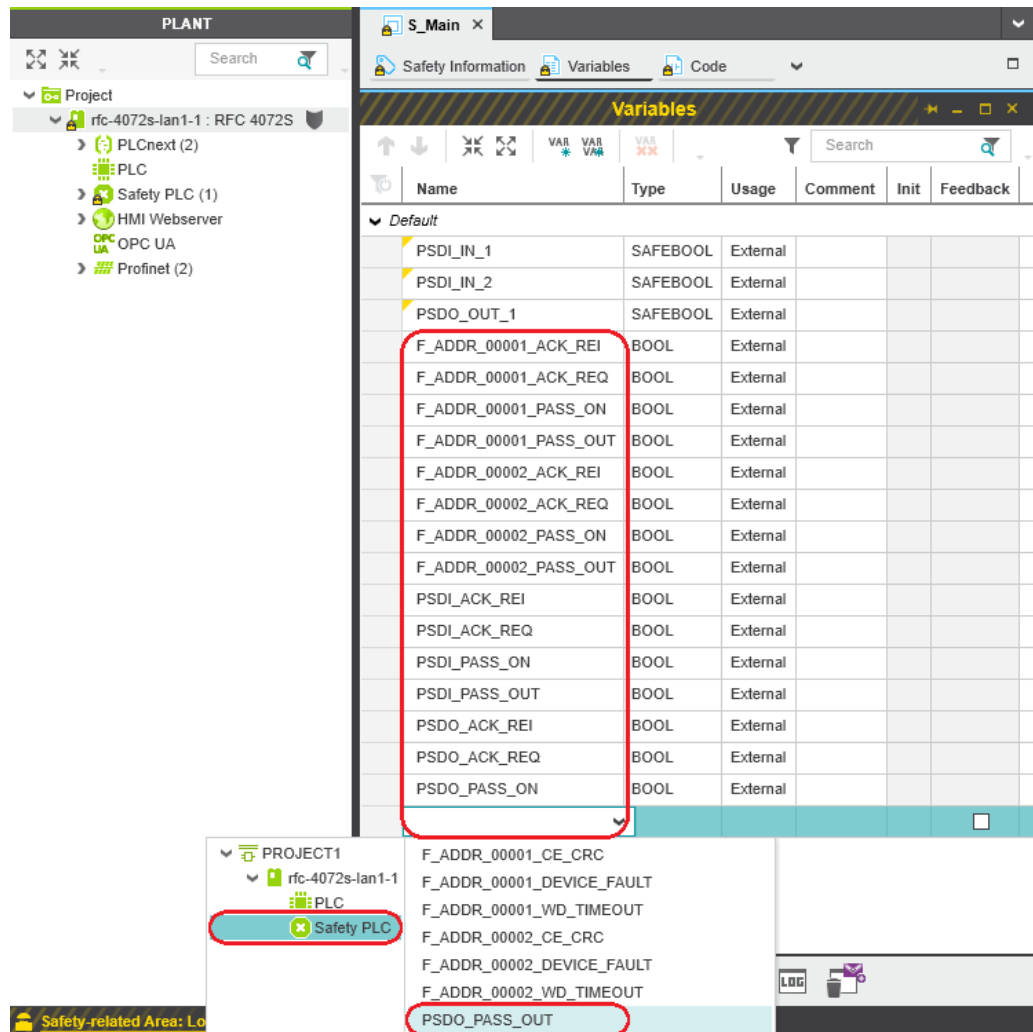

Figure 4-52 Selecting management/diagnostic variables
- Open the selection list by clicking on the arrow in the “Name” field (see Figure 4-52).
- Repeat this step for all the management/diagnostic variables and exchange variables shown in Figure 4-52.